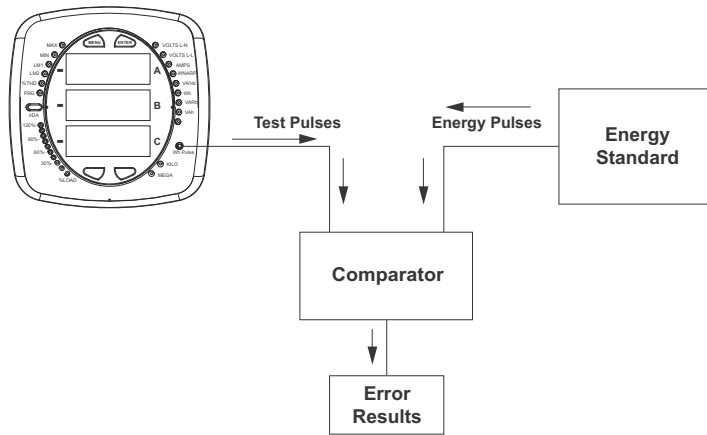

Figure 6.5: Using the Watt-hour Test Pulse
- Refer to Figure 6.5 for an example of how this process works.